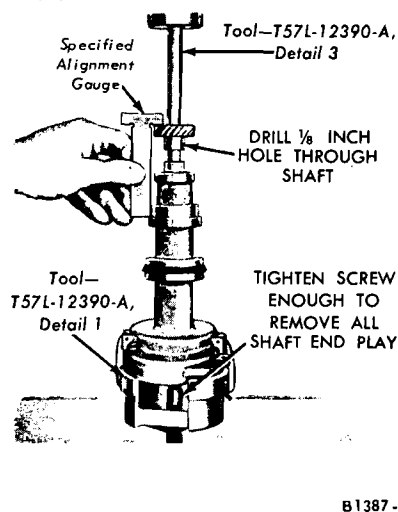

FIG. 18—New shaft and Gear Installation—V-8 Engines
a 0.024-inch feeler gauge between the backing screw and the shaft. Tighten the backing screw on the tool enough to remove all shaft end play. Remove the feeler gauge and allow the shaft to rest on the backing screw. Slide the collar on the shaft. While holding the collar in place against the distributor base (Fig. 18), drill a 1/8-inch hole through the shaft using the access opening
4. With the backing screw on the support tool tightened enough to remove all end play, press the gear on the shaft to the specified distance from the bottom face of the gear to the bottom face of the distributor mounting flange (Fig. 18). Drill a